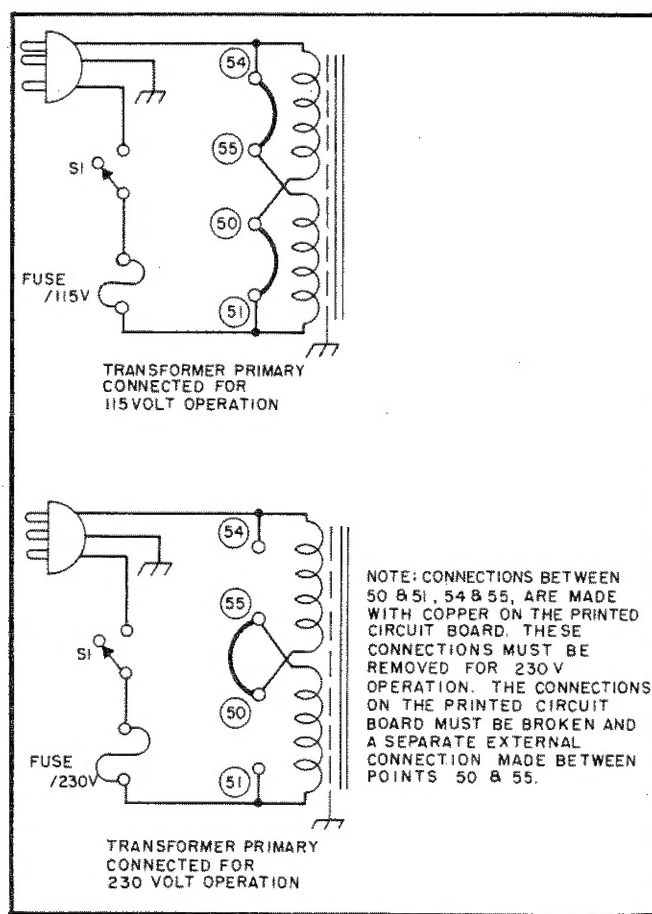

Figure 2-1. Primary Connections
### 2-15 CONNECTIONS FOR 230 VOLT OPERATION (Figure 2-1)
b. Break the copper between 54 and 55 and also between 50 and 51 on the printed circuit board. These are shown in Figure 2-1, and are labeled on copper side of printed circuit board.